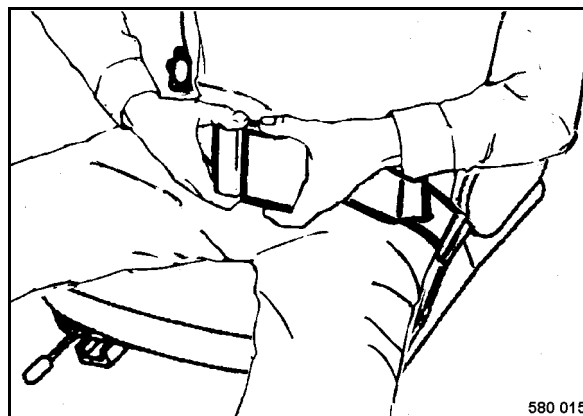

Fig. 25
- Fasten your seat belt (Fig. 25).